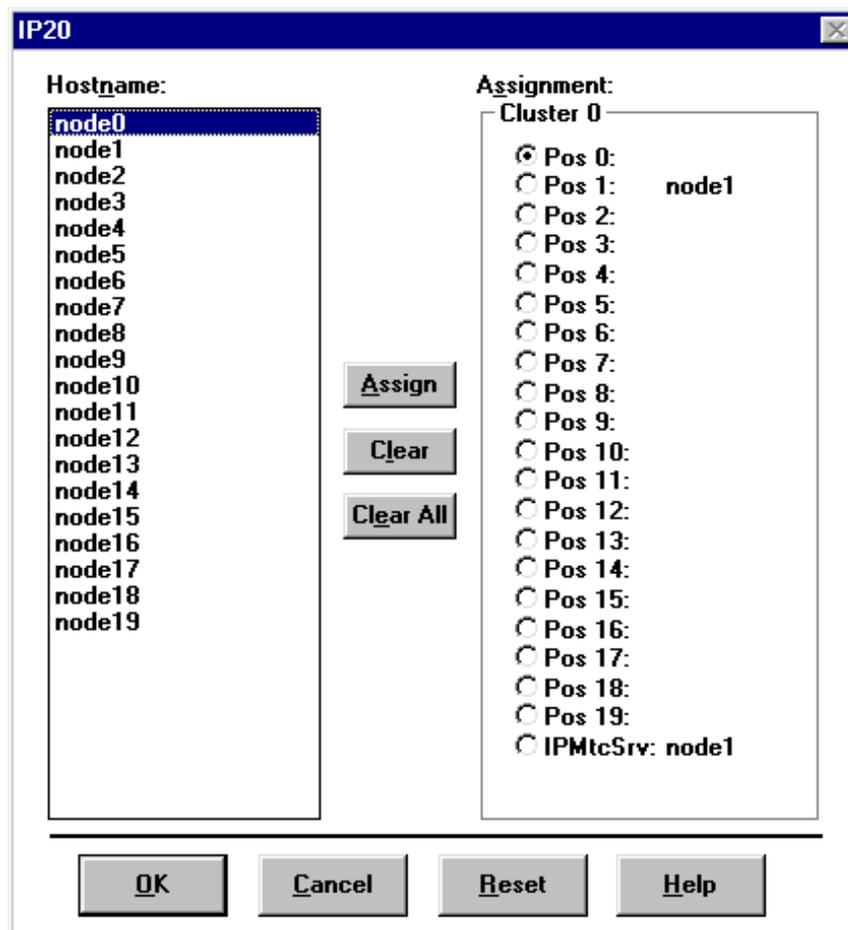

FIGURE 83. Example of MPXNET IP Maintenance dialog box
5. To define the layout of each cluster of operator positions, select MtcCluster Layout. (See Figure 83.)